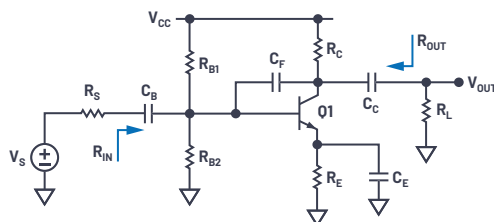

Figure 1. Common emitter BJT amplifier.
The schematic of a typical common emitter amplifier is shown in Figure 1. Capacitors C_B and C_C are used to block the amplifier dc bias point from the input and output (ac coupling). Capacitor C_E is an ac bypass capacitor used to establish a low frequency ac ground at the emitter of Q1. Miller capacitor C_F is a small capacitance that will be used to control the high frequency 3 dB response of the amplifier.
- ▶ Construct the amplifier, based on the schematic in Figure 1, you designed in the pre-lab. Based on your design values from the pre-lab, use the closest standard value from your kit. Remember that you can combine the standard values in series or parallel to get a combined value closer to your design number.